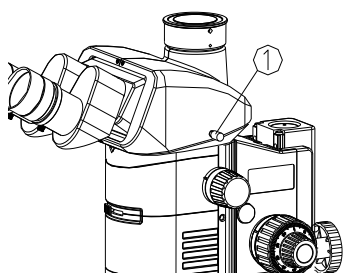

Fig. 22
When the light path selecting pole① is pushed to the innermost, all the light will enter the binocular head, which can be used for binocular observation. (See Fig. 22)